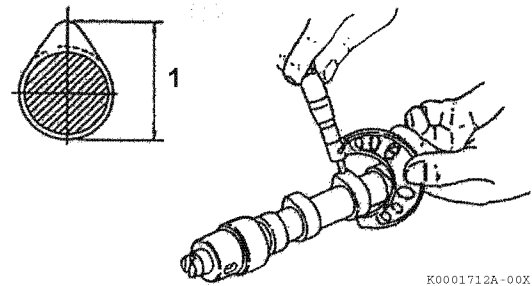

Figure 6-75
3. Measure the height of each lobe (Figure 6-75, (1)). Record the measurements. See Camshaft on page 6-5 for specifications.